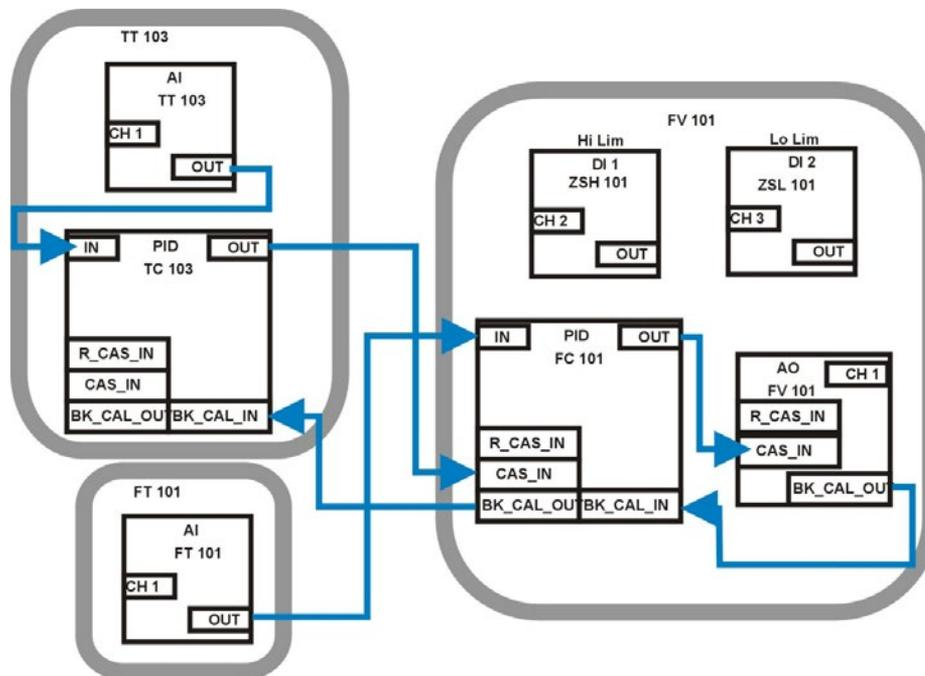
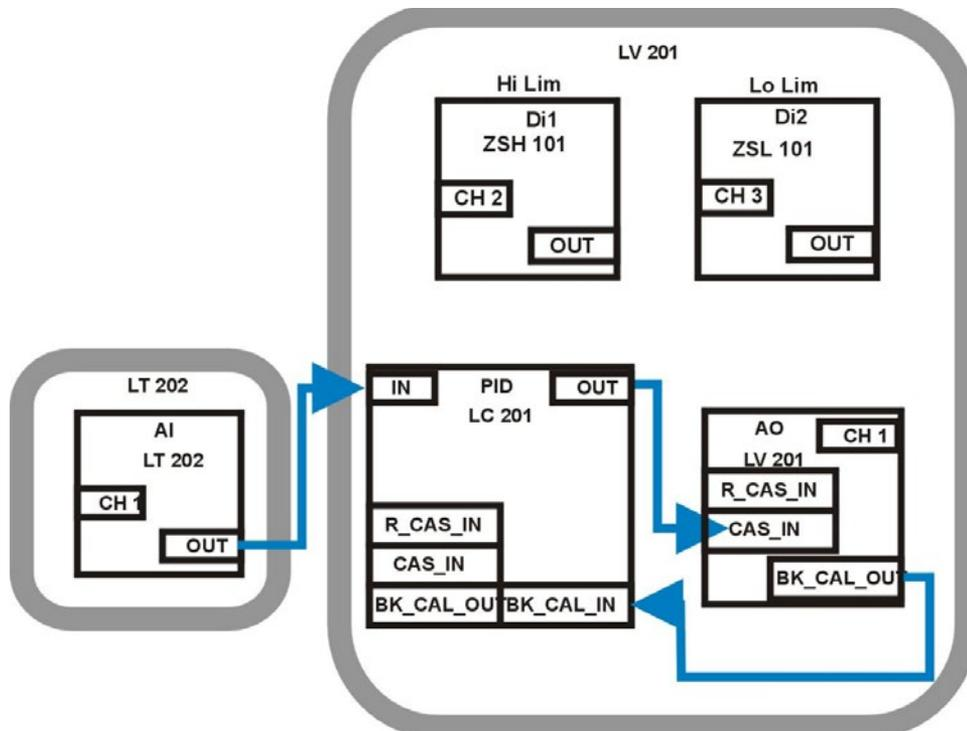

Figure 51 - Temperature Cascade Block Diagram
Figure 52 - Level Loop Block Diagram
- The coolant flow control valve, FV 101, has a PID control function block, one DI block and an Analog Output block (AO), all located within the valve positioner. The DI block can set either a high limit, a low limit or both the high and low limits.
- The coolant flow transmitter, FT 102, has only a transmitter function. It has Analog Input function block (AI) implemented in its firmware.
- The PID blocks in TT 103 and FV 101 devices are scheduled to work in cascade as shown in Figure 51. The AO block in the FV 101 receives the output from the FV 101 PID block and via the transducer block transmits it to the control hardware of the valve.
All the blocks in the temperature cascade are shown in Figure 51. Similarly The level loop function blocks are shown in Figure 52.